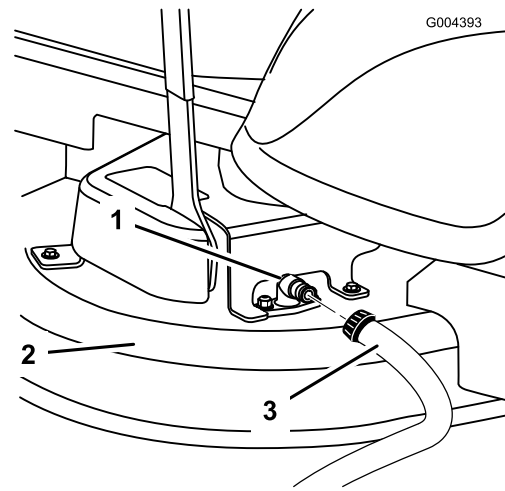

Figure 60
3. Attach the hose to the end of the mower washout fitting, and turn the water on high (Figure 60).